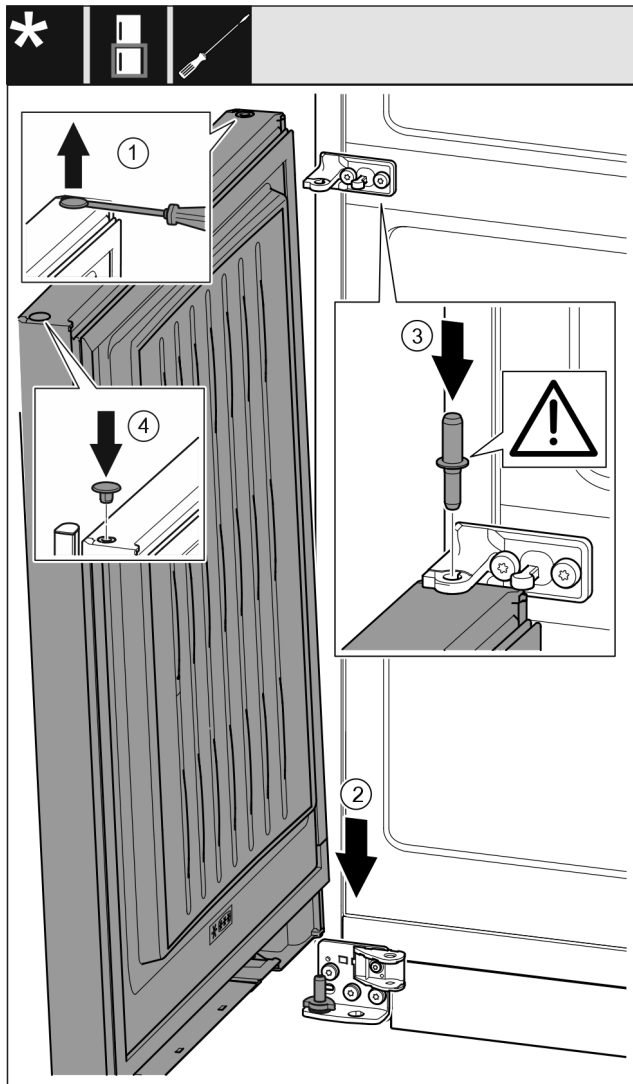

Fig. 55
- Use a slotted screwdriver to lift the plug Fig. 55 (1) carefully and pull it out.
- Lower the door Fig. 55 (2) onto the bottom bearing bolt.
- Insert the centre bearing bolt Fig. 55 (3) through the centre bearing block in the lower door. Ensure that the latching cam is pointing towards the rear.
- Re-insert the plug Fig. 55 (4) on the other door side.